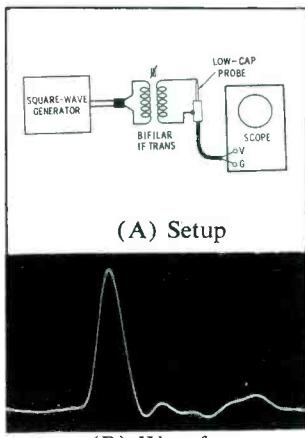

Fig. 6. HF-inductor test.
The reverse-conduction spike has been utilized, however, in pulse generation and harmonic production. Diodes especially suited to these applications are the PIN types (those containing an *intrinsic* (I) layer between the P and N layers of the junction). The step recovery diode may be connected into a frequency multiplier circuit, in place of the varactor shown in Fig. 6. Such circuits have been used to obtain microwave output for a VHF input signal, at an efficiency of 15%.
Many IF coils are designed as bifilar transformers. When such an IF transformer is tested (Fig. 6), it exhibits *transformer differentiation*. In other words, pulses are displayed at the leading and trailing edges of the square wave, although the square wave itself is not passed. Baseline irregularity following the pulse is also characteristic. With this type of unit, pulse height, pulse width, and baseline shape indicate whether or not the transformer is defective. The waveform in Fig. 6B shows no clearly definable ringing interval because the scope cannot respond to such a high ringing frequency. Nevertheless, ringing is present; a scope with sufficient vertical-amplifier bandwidth would display it.